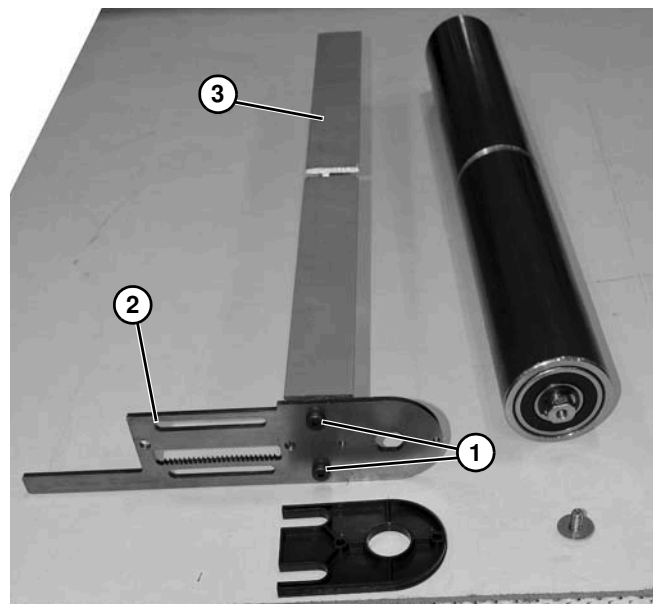

Figure 114
14. Remove two screws (**Figure 114, item 1**) and remove tension tail plate (**Figure 114, item 2**) from articulation bar (**Figure 114, item 3**).